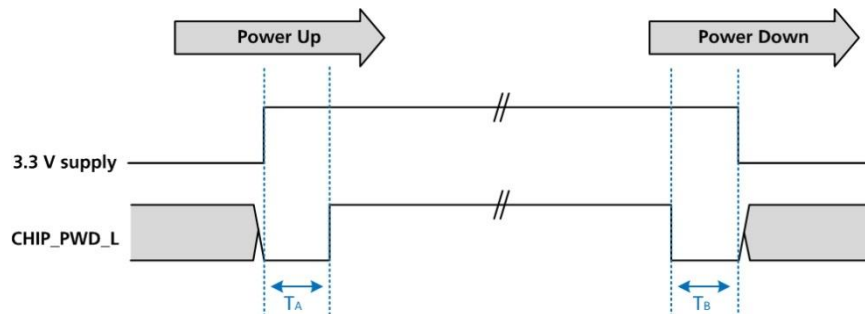

Figure 3: Power on/down timing
**Note Regarding CHIP\_PWD\_L:** During power on/down period, the CHIP\_PWD\_L must be held in low state longer than 5  $\mu\text{sec}$  ( $T_A$  and  $T_B$ ) after the VCC3\_3 reaches its high state. See Figure 3.